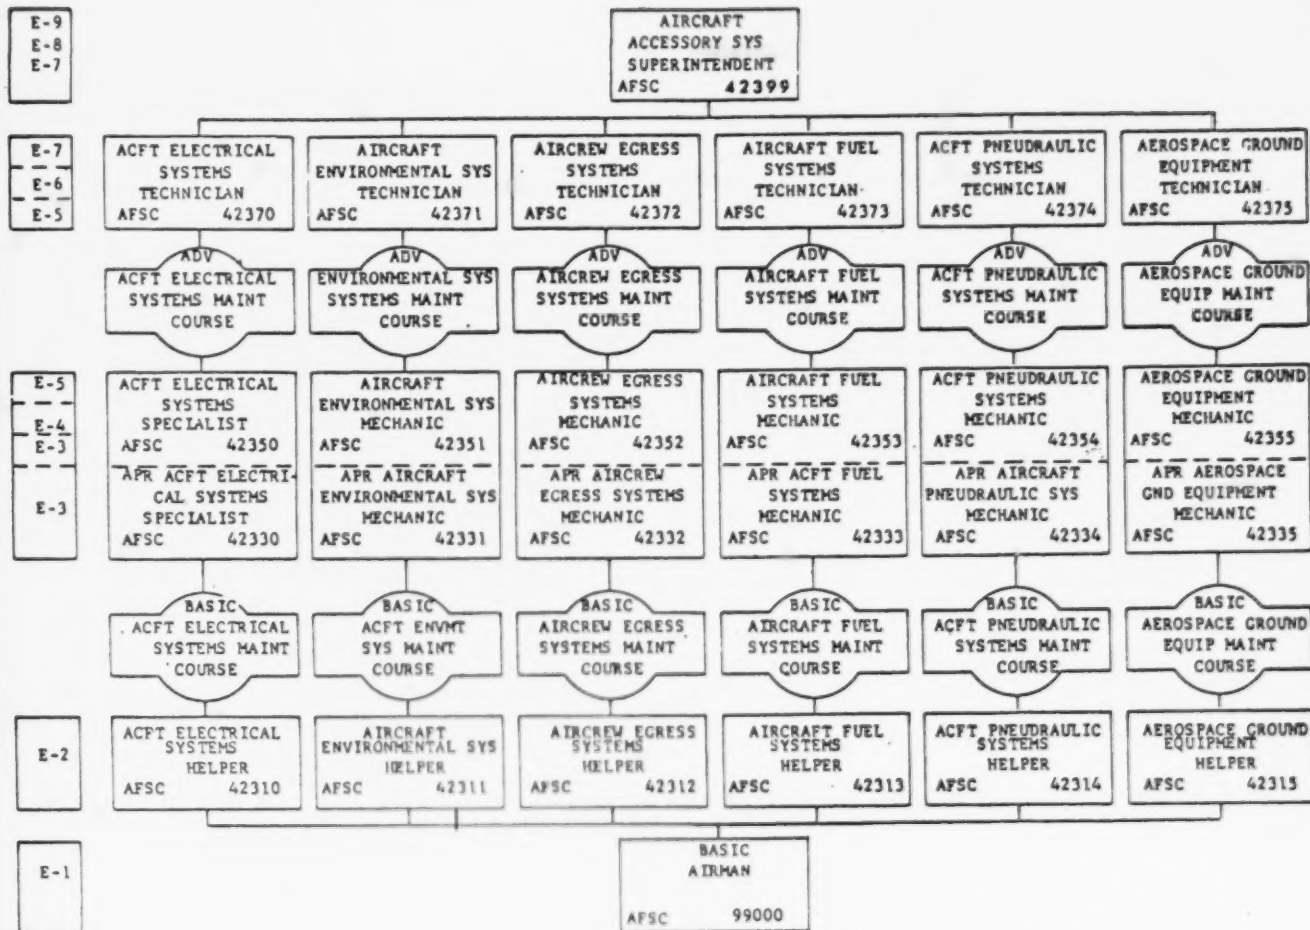

Figure 1-2. Career Field Chart.
Aircraft Accessory Systems. The Aircraft Accessory Systems subdivision is divided into six specialties: (1) Electrical, (2) Environmental, (3) Egress, (4) Aircraft Fuel, (5) Pneumatic, and (60) Aerospace Ground Equipment. Figure 1-2 is a Career Field Chart showing the relationship of AFSs grouped into a career field subdivision and the progression steps in each career ladder. Naturally, you are most concerned with the Pneumatic Systems Specialty; so study the Career Field Chart for a brief moment, paying particular attention to the Pneumatic ladder and progression steps.